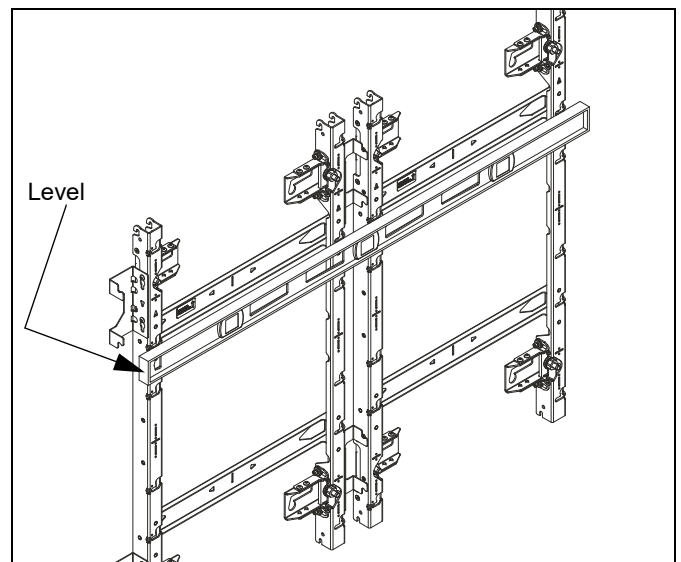

Figure 14
4. Check the plumb of the second mount against the previously installed plane mount and adjust so that both mounts are on the same plane. (See Figure 14)